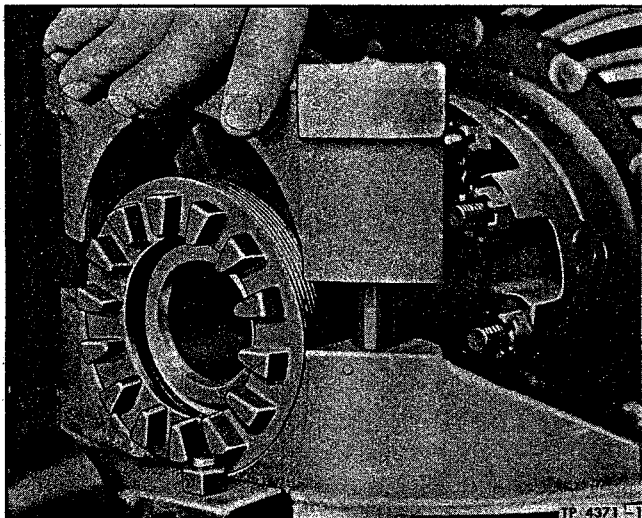

Figure 7—Side Bearing Cap Installation
1. Temporarily install bearing cup (41), adjuster ring (8), and bearing cap (42), then tighten stud nuts to recommended torque.
5. Place bearing cups (41) over bearing cones (40), then position differential assembly in differential carrier.
6. Insert bearing adjusting rings (8) and turn hand tight against bearing cups (41).
7. Place differential bearing caps (42) over studs with alignment marks in line (fig. 7), then tap lightly into position.